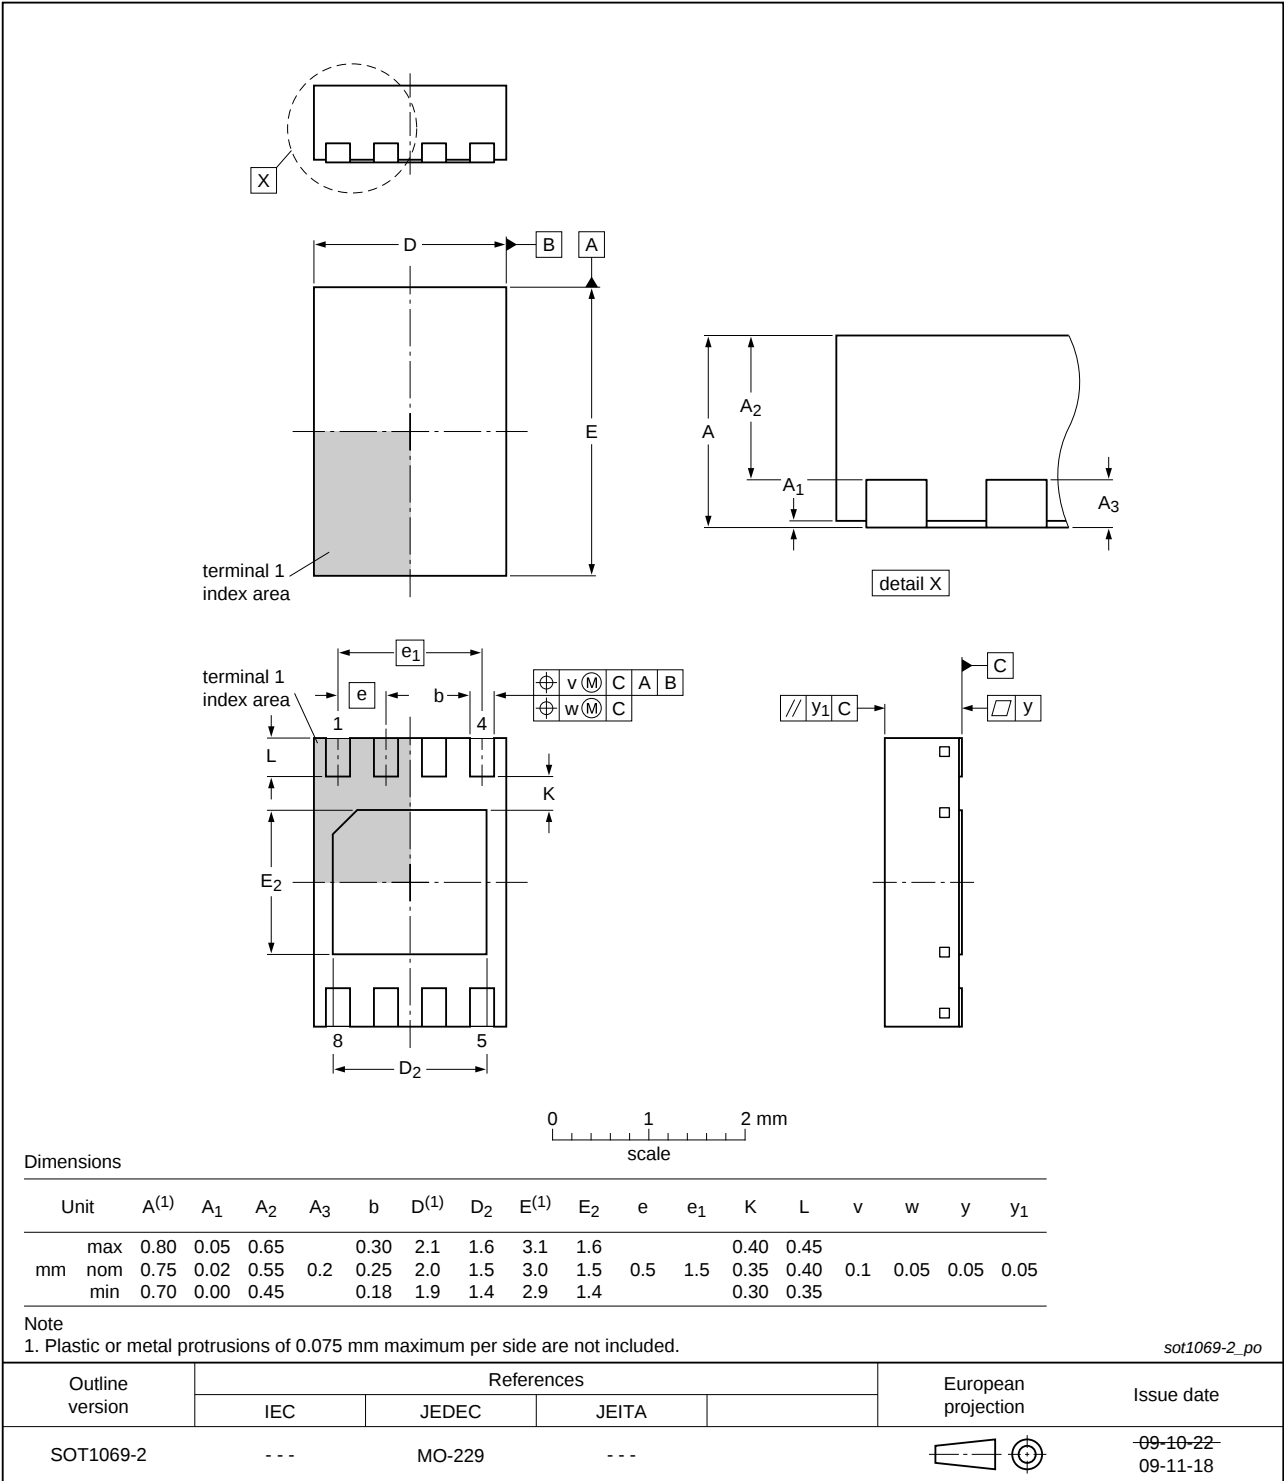

Fig 12. Package outline SOT1069-2 (HWSON8)
• Section 2 "Features and benefits": – 12th bullet item: deleted phrase "200 V MM per JESD22-A115" – 14th bullet item: added "HWSO8" package • Table 1 "Ordering information": added Type number PCA9515ATP (HWSO8 package) • Section 5.1 "Pinning": added (new) Figure 4 "Pin configuration for HWSO8" • Table 2 "Pin description": added column for HWSO8 pinning • Table 3 "Limiting values": – Symbol/Parameter "V_{bus}, voltage on I²C-bus, SCL or SDA" changed to "$V_{I2C-bus}$, I²C-bus voltage" with "SCL or SDA" in Conditions column – Symbol/Parameter "I, DC current" changed to "I_{IO}, input/output current" • Table 4 "Static characteristics ($V_{CC} = 3.0\text{ V to }3.6\text{ V}$)", Table note [1]: added phrase "(Table 4 for $V_{CC} = 3.0\text{ V to }3.6\text{ V}$; Table 5 for $V_{CC} = 2.3\text{ V to }2.7\text{ V}$)" • Table 5 "Static characteristics ($V_{CC} = 2.3\text{ V to }2.7\text{ V}$)", Table note [1]: added phrase "(Table 4 for $V_{CC} = 3.0\text{ V to }3.6\text{ V}$; Table 5 for $V_{CC} = 2.3\text{ V to }2.7\text{ V}$)" • Section 12 "Package outline": added (new) Figure 12 "Package outline SOT1069-2 (HWSO8)"